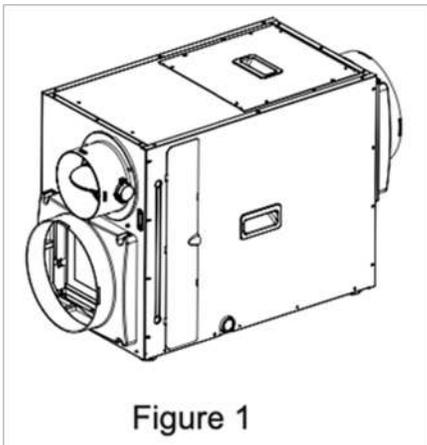
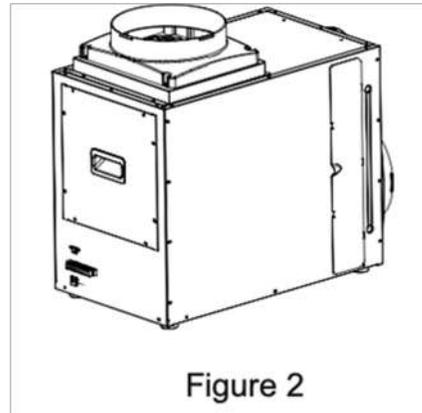

Figure 1
Figure 2
- a. For models **WH100OA** and **WH120OA**, Figure 1 shows the units as delivered. Figure 2 shows the supply side (outlet) duct adaptor changed to the vertical position. To make this change follow the instructions below.